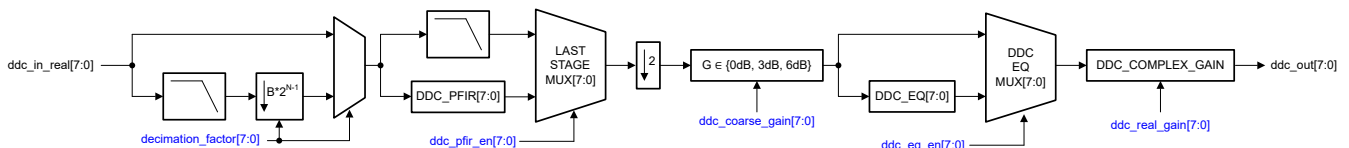

Figure 7-23. Real Decimation Signal Chain (decimation factors that are powers of 2 ($B = 1$))
- **Real decimation:** The real input is low pass filtered and the filter output is down sampled by the decimation factor (M). The output of the DDC block in this mode is a real signal and detailed DDC chain is shown in Figure 7-23.